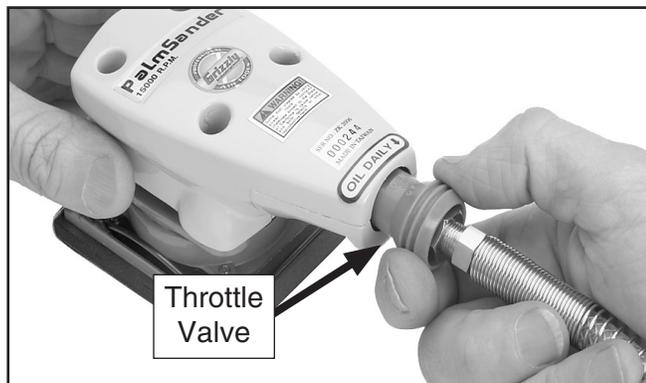

**Figure 4.** Attaching sandpaper on opposite side.
- Repeat **Step 3** with the opposite clamp, fold the sandpaper over the sander, and repeat **Step 4**, making sure the paper fits snugly as shown in **Figure 4**.